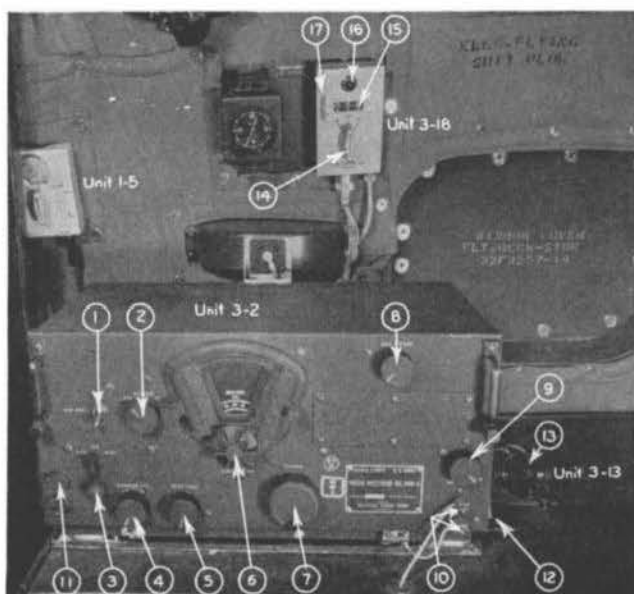
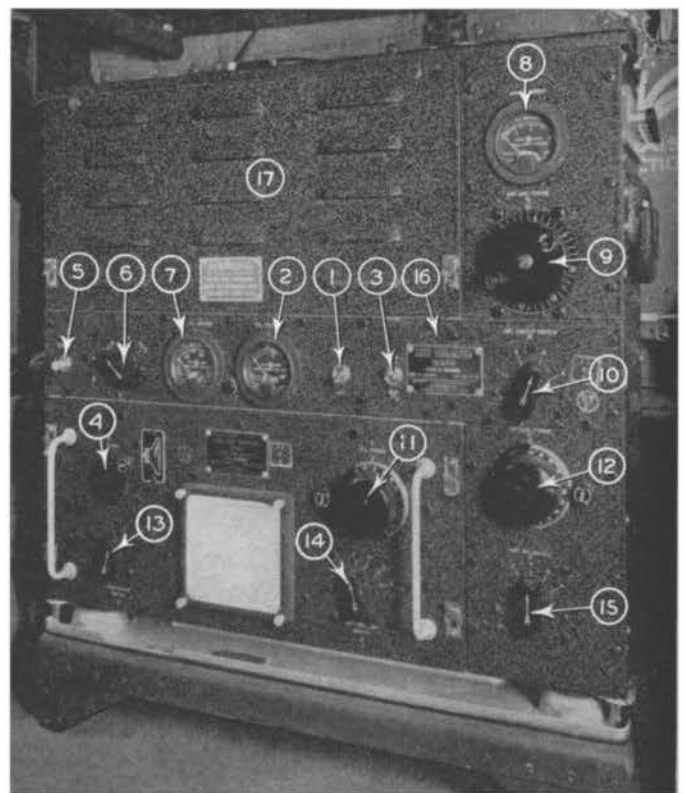

Figure 47. Liaison Receiver and Antenna Reel Control Box
Figure 50. Liaison Transmitter
- Unit 3-1 One BC-375-D Transmitter. Figures 50 and 51.
- 3-2 One BC-348-H Receiver. Tuning Range 1,500 KC. to 18,000 KC. Figure 47.
- 3-13 One J-37 Transmitting Key. Figure 47.
- 3-18 One BC-461 Antenna Reel Control Box. Figure 47.
Liaison Equipment Operation—The liaison receiver face contains nine controls, as follows (see Figure 47):
LIAISON TRANSMITTER—The liaison transmitter Unit 3-1, Figures 50 and 51, has the following controls and indicators on the front of the panel:
The Liaison transmitter Unit 3-1 Figure 50 is turned "ON" and "OFF" by the power switch (1) mounted on the face of the transmitter. **When the transmitter is "ON" it is important that the filament voltage be closely maintained at 10 volts** as indicated on the voltmeter (2). The C.W. and Modulator filaments are checked individually by means of a selector switch (3).
If it is found that the filament voltage must be raised or lowered to maintain the 10 volts needed, turn off the power switch (1) Figure 50 and remove the cover over the tube section. Varying the placement of the metal links on the terminal strip behind the VT25 and VT-4-C in the left compartment will correct the trouble. See Figure 51. This adjustment must only be made if proper voltage is not obtained with switch (5) in the 28 volt position and the engine running with engine generators on.
chart attached to the front of the tuning unit. The settings as shown on this chart are very close with regard to accuracy but with the Monitor switch (12), Figure 47, thrown to the "Monitor" position the side tone of the transmitter is cut off and the output frequency can be tuned to exactly match (zero beat) with the desired frequency setting on the liaison receiver (Unit 3-2). During this tuning, the receiver should be "ON" and the C.W. switch (1) also thrown to the "ON" position. With both transmitter and receiver "ON" in the above posi-
tions and the monitor switch (12) Figure 47 in the "Monitor" position, press the transmitter key Unit 3-13 and tune the transmitter oscillator frequency dial (4) Figure 50 until the transmitter output is heard in the receiver. Trim the transmitter adjustments for maximum output and recheck on the receiver. Transmitter is now adjusted for operation and standing by, ready for break-in operation on the station or frequency to which it has been adjusted.
4. Open the calibration reset port, Item 16, Figure 50, located on the front panel, between the TEST KEY and TONE-CW-VOICE switch, insert a screwdriver, and rotate the calibration reset capacitor until the transmitter frequency coincides with that of the frequency meter.
The antenna tuning equipment in the radio transmitter is designed to feed antennae at any frequency from 800 to 12,500 kilocycles. Since this band of frequencies extends above, and below the fundamental frequency, the circuit and circuit constants are so selected as to permit both current and voltage feed. A rotating inductor and a tapped inductance provide the inductive reactance variation. A variable capacitor provides the variation in capacitive reactance and also serves as coupling impedance for voltage feed. Controls governing the variation in inductive or capacitive reactance are so arranged that inductance or capacitance, with the ANT. CIRCUIT SWITCH N (10 figure 50) on **position 1**, the radio transmitter works into a simple series resonant circuit, in which the high voltage built up across the antenna tuning capacitor is used to "voltage feed" the antenna.
This circuit is generally used for high frequencies and fairly long fixed antennae. The antennae feed circuit is maintained at resonance by means of ANT. IND. TUNING, M, (9 figure 50) while the voltage fed to the antenna is varied by means of ANT. CAP. TUNING, O, (12 Figure 50) and ANT. COUPLING SWITCH D, (14 figure 50). Feed circuit resonance is indicated by the ANT. CURRENT meter, (8 figure 50). The current in the feed circuit is adjusted by control D and should not exceed 6 amperes. The step by step tuning procedure is as follows:
3. Adjust control D so that antenna ammeter, (8 figure 50) reads below 6 amperes.
4. Re-resonate circuit as in step (2).
Repeat the above procedure until the proper loading (200-220 ma CW) is indicated on the plate ammeter (7 figure 50). The lower the dial reading on control M and the lower the reading on the ANT. CURRENT meter that it is possible to obtain at a given frequency, the more power will actually be delivered to a given antenna. The lower the reading on control M and the lower the ANT. CURRENT meter readings, the less the tuning circuit losses and thus more useful power is delivered to the antenna for radiation purposes.
With ANT. CIRCUIT SWITCH N (10 figure 50) on **position 2**, the radio transmitter works into a series resonant circuit where the antenna is "**current fed.**" The antenna circuit is resonated by means of ANT. IND. TUNING M and ANT. CAP. TUNING O, as indicated by the ANT. CURRENT meter. **This circuit is used generally for operation near the fundamental frequency of the antenna.**